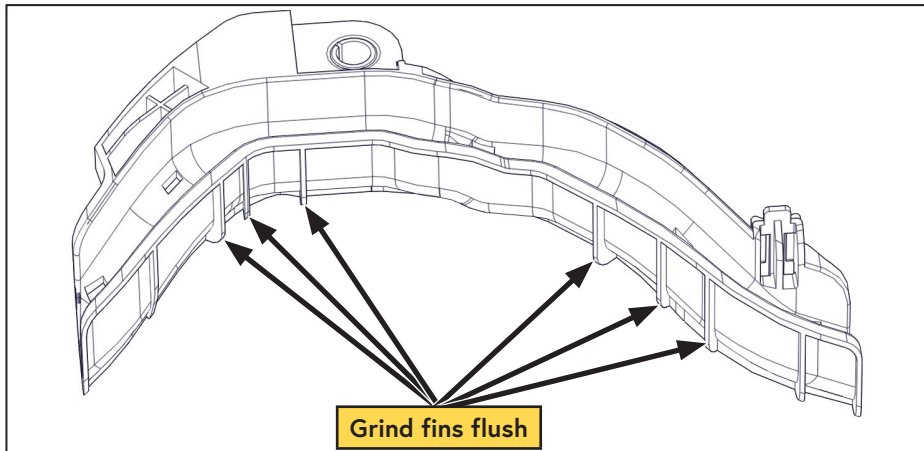

Figure 17 — Modifying the cable tray
- Grind the fins flush with the cable tray body (Figure 17).